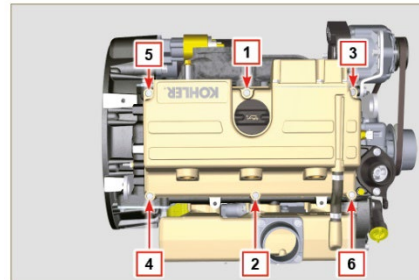

Fig 6.27
3. Attach the rocker arm cover **C** on the head **AL** with the screw **L** adhering to the tightening sequence shown in **Fig. 6.27**